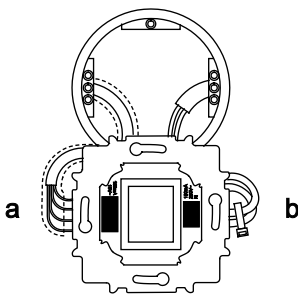

Fig. 2: 1518 U power supply insert
3. Bundle the wires of the mains cable (230 V) with the cable binders included in the scope of supply (Fig. 2: b).
4. Push the low-voltage lines through the insulating tube included in the scope of supply (Fig. 2: a).